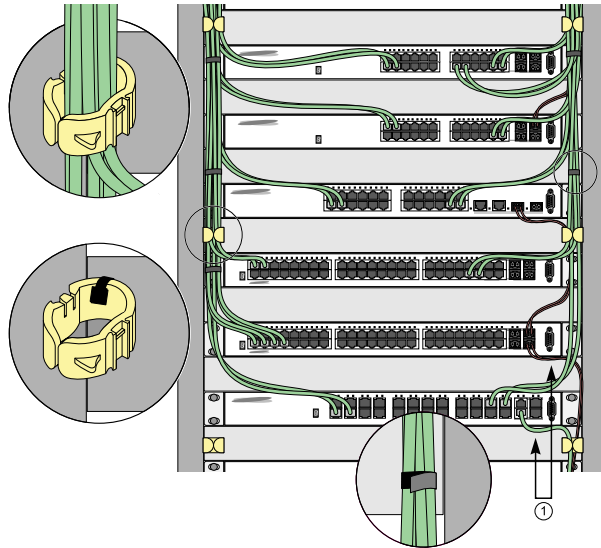

Figure 20: Properly Installed and Bundled Cable
- Provide enough slack, approximately 5 to 7.5 cm (2 to 3 in), to provide proper strain relief as shown in Figure 20 on page 36.
- When installing a patch panel using twisted pair wiring, untwist no more than 2.5 cm (1 in) of the cable to avoid radio frequency (RF) interference.